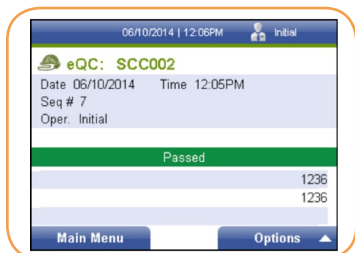

FIGURE 112
- Once completed the reader will display the results of the testing (Figure 112).